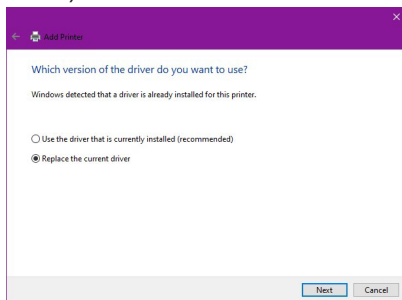

Figure 27
11. If the **Which version of the driver do you want to use?** screen appears, select **Replace the current driver**. Click **Next**. (Figure 27)